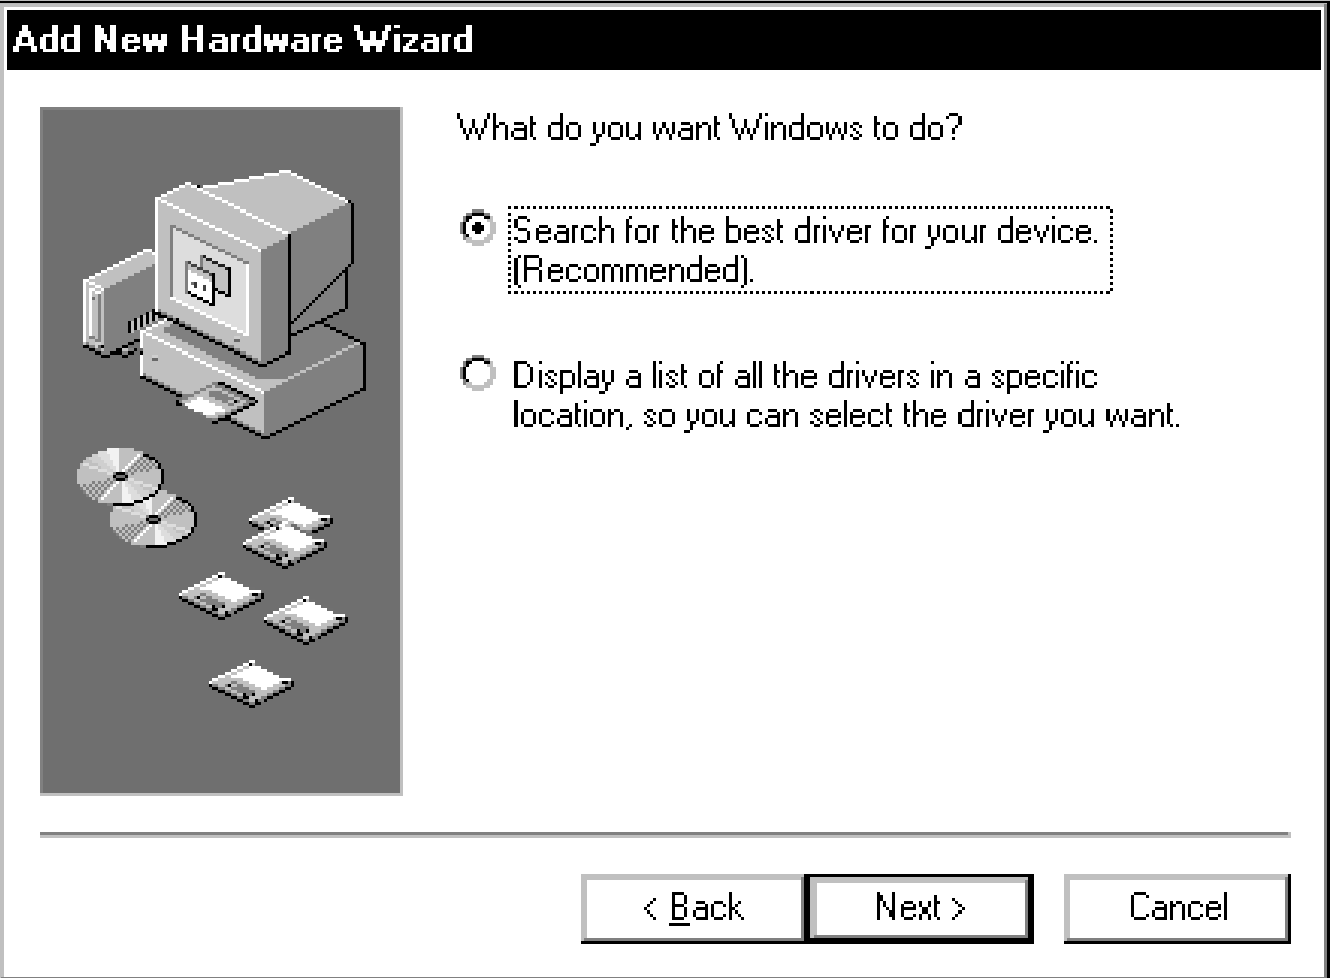

Figure 24. Windows 98SE: **Add New Hardware Wizard | Options** Window
- 2) An **Add New Hardware Wizard | Options** window appears next (Figure 24). Choose the **Search for the best driver for your device (Recommended)** option and press the **Next** button when finished.